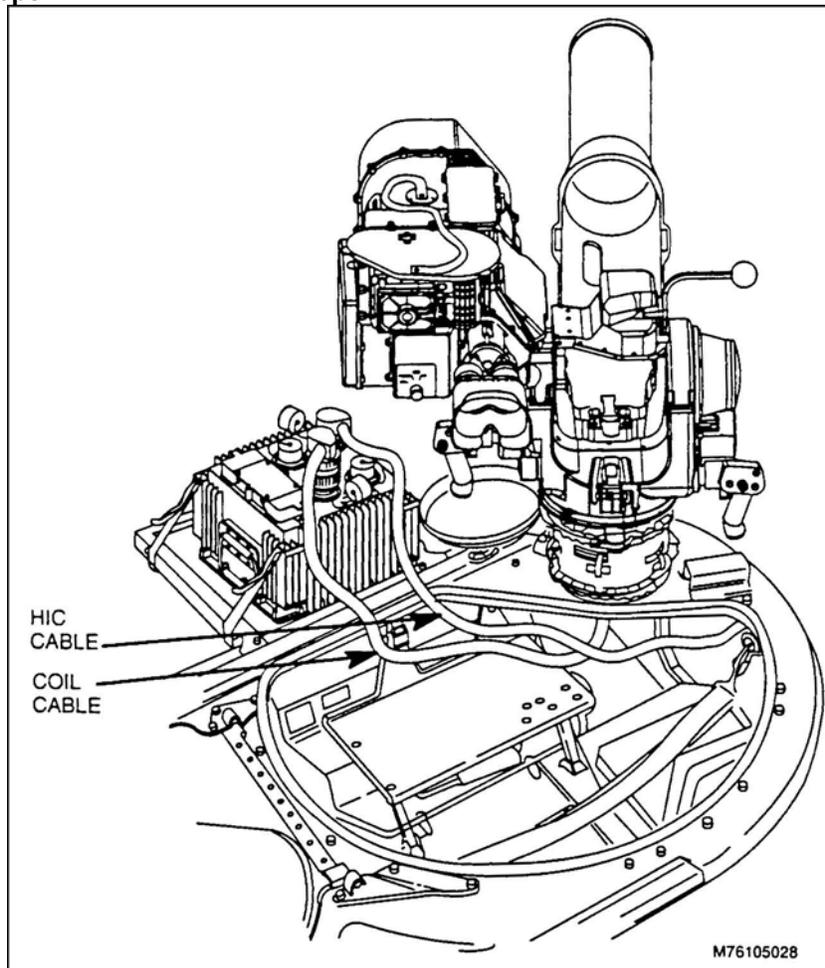

Figure 18. Connecting BPS to FCS.
- (3) Connect the coil cable with pin saver adapter to the J2 connector on the FCS (Figure 18).